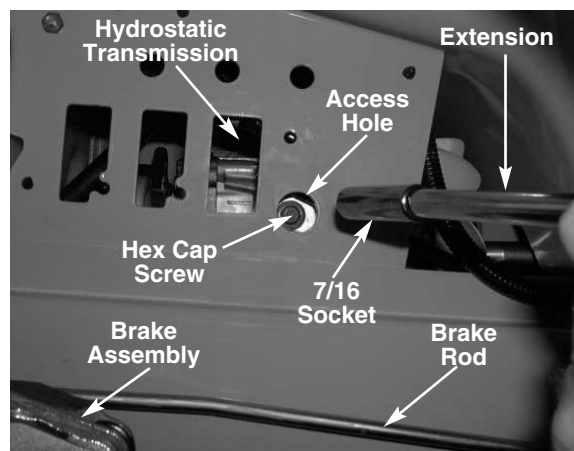

FIGURE 2.
8. Loosen the hex cap screw securing the hydro neutral return plate to the hydro arm using a 7/16 socket and extension. See figure 2.
NOTE: There is an access hole that will allow the socket to reach the hex cap screw through the right rear side frame. See figure 2.